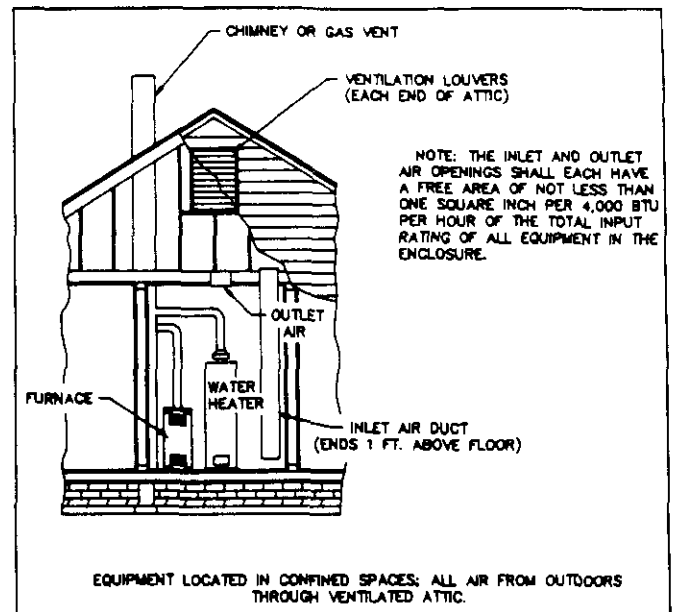

FIGURE 14
4. If combustion air ducts will run vertically, ducts and each opening must have a minimum free area of one square inch per 4,000 Btuh total combined input rating. You must allow for all gas appliances within the furnace space. See Figure 14.